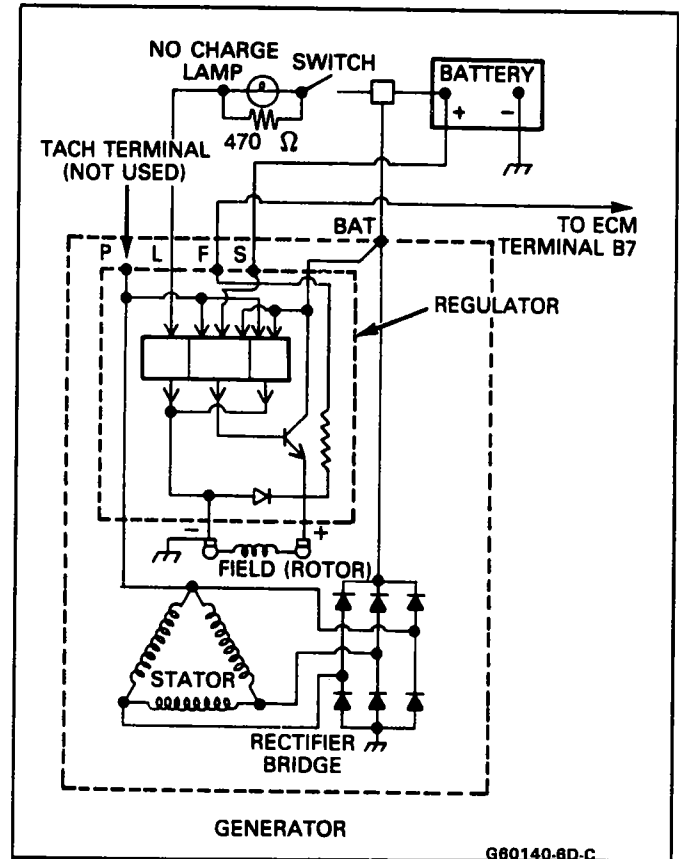

Figure 6D-11 CS Charging Circuit
A basic wiring diagram for the charging system (CS) is shown in Figure 6D-11. When operating normally, the indicator lamp will come on when the ignition switch is turned on and go out when the engine starts. If the lamp operates abnormally, or if an undercharged or overcharged battery condition occurs, the following procedure may be used to diagnose the charging system. Remember that an undercharged battery is often caused by accessories being left on overnight, or by a faulty switch which allows a lamp, such as a trunk or glove box lamp, to stay on. Also, this generator does not have a test hole.